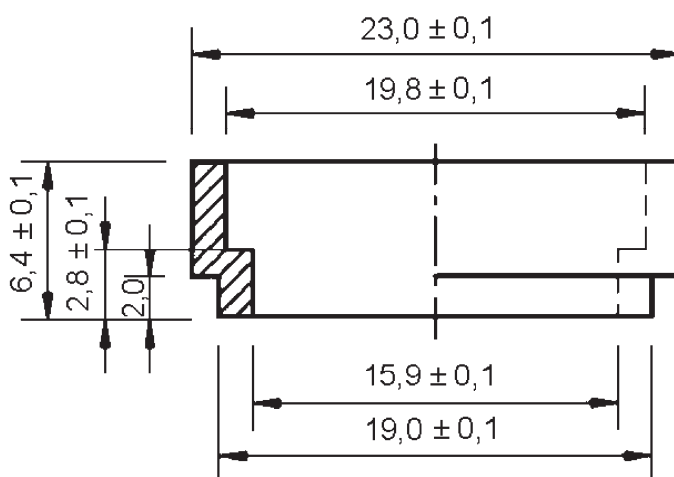

Figure 2 — Shouldered brass ring
- a) shouldered brass ring to the dimensions of Figure 2;
| 1 | Liquid level | 4 | Shouldering ring, see Figure 2 |